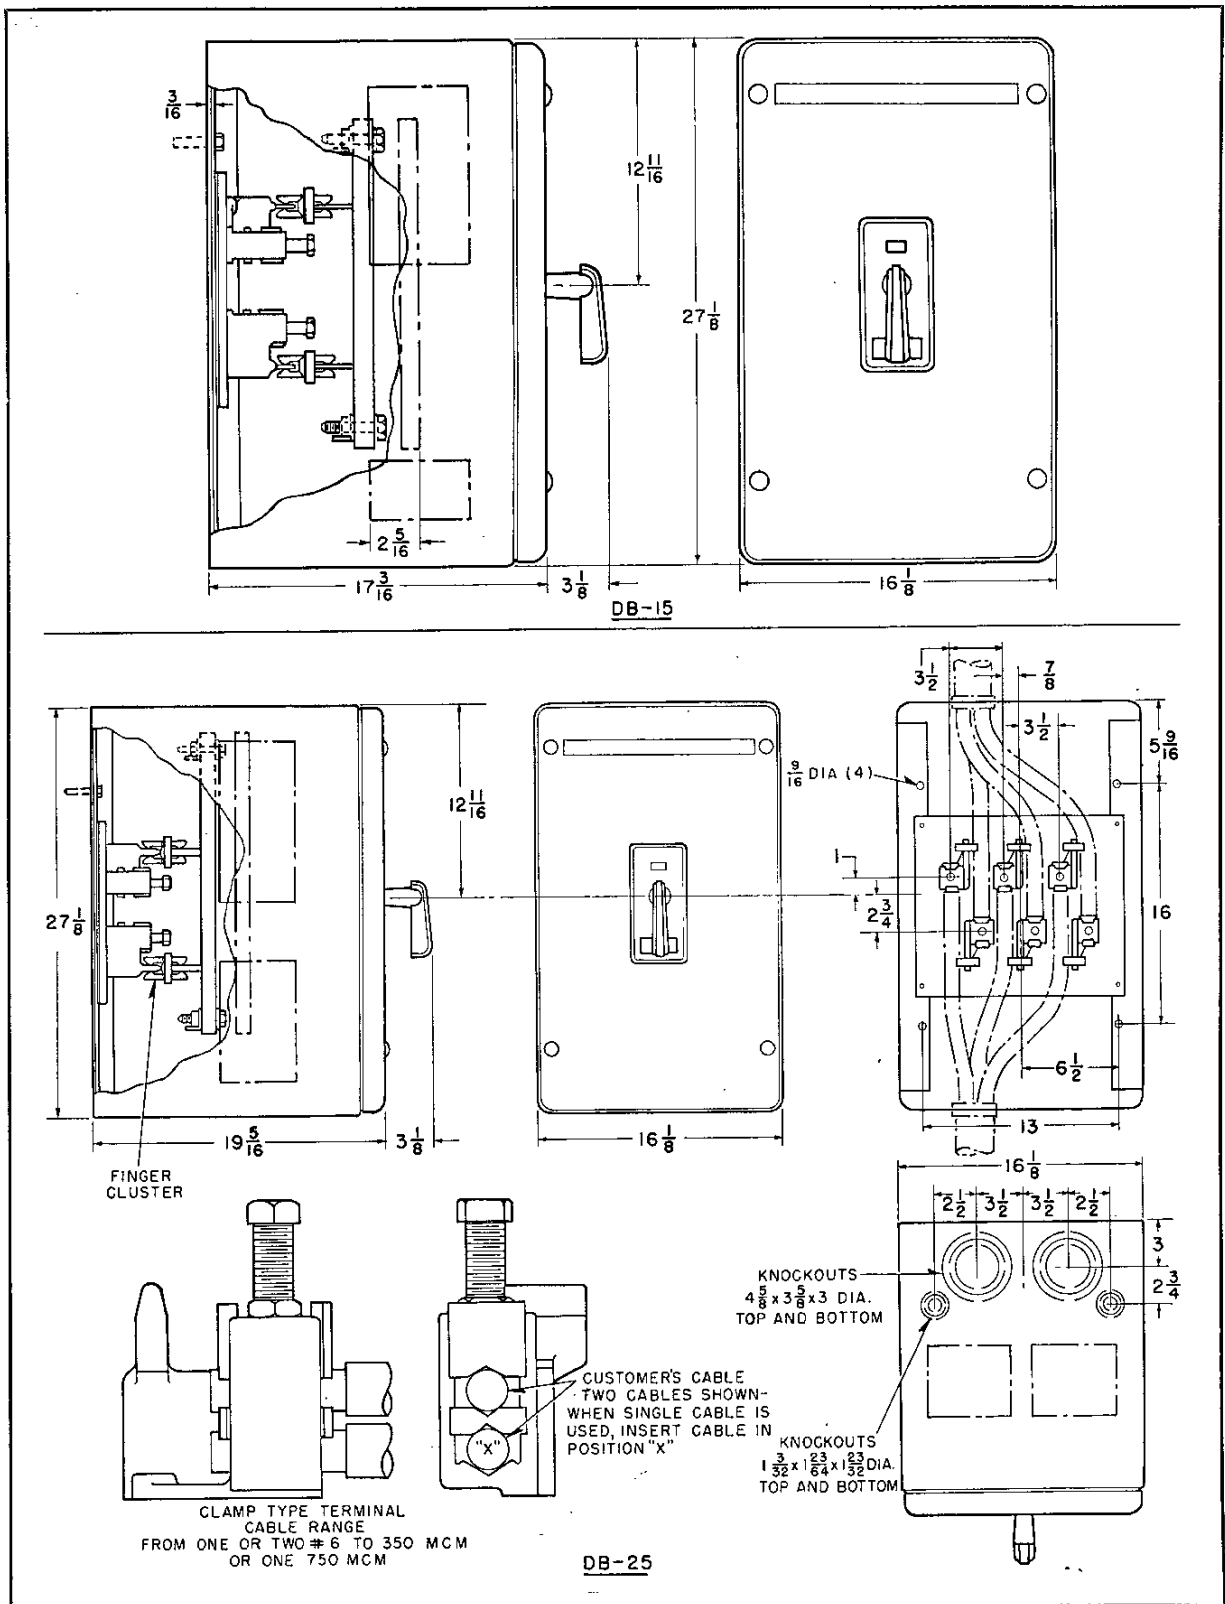

FIG. 2. Ventilated Enclosures—Outline Dimensions and Mounting Details
Mounting dimensions and details of front enclosure cutouts are shown in Figs. 2, 3 and 4.
The terminal panel and breaker arrangement shown in Fig. 2 apply specifically to ventilated enclosures. The same arrangement is used for all other enclosures (weatherproof, subway, explosion-proof, dust tight and semi-dust tight) except
1. Connect the entrance cables first. Whenever possible, the power cables should be connected to the top terminals to remove voltage from the over-current attachments when the breaker is open. The cables can be connected to the nearest terminal, or to the opposite terminal as shown in Fig. 2. Tin the ends of the cable to prevent the formation of copper oxide. Tighten the clamp bolt securely and lock with the lock nut.
4. Always rotate the operating handle to the tripped position before removing the front cover. A trip rod (not shown in Fig. 2) holds the breaker trip free when the front cover is off. When operating the breaker in the test position (front wheels engaging the slot in the rail), it is unnecessary to hold this rod in manually to secure closure of the breaker. When fastening the cover in place, draw the four cover bolts down firmly.